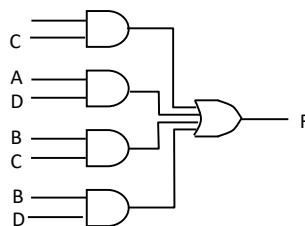

Figure 2-11
39. Write the output expression of the circuit shown in Figure 2-11.
40. Figure 2-12 shows the NAND gate implementation of the circuit in figure 2-11. Wire the circuit shown in Figure 2-11. The pin connections for the 74LS00 and 74LS20 are given in Figure 2-13. Be sure to connect pin 14 to +5 volts and pin 7 to GND on each IC. Connect +5V to all unused inputs.
46. Compare the two F output columns in Table 15. What conclusion can you reach regarding the circuits in Figure 2-11 and 2-12?